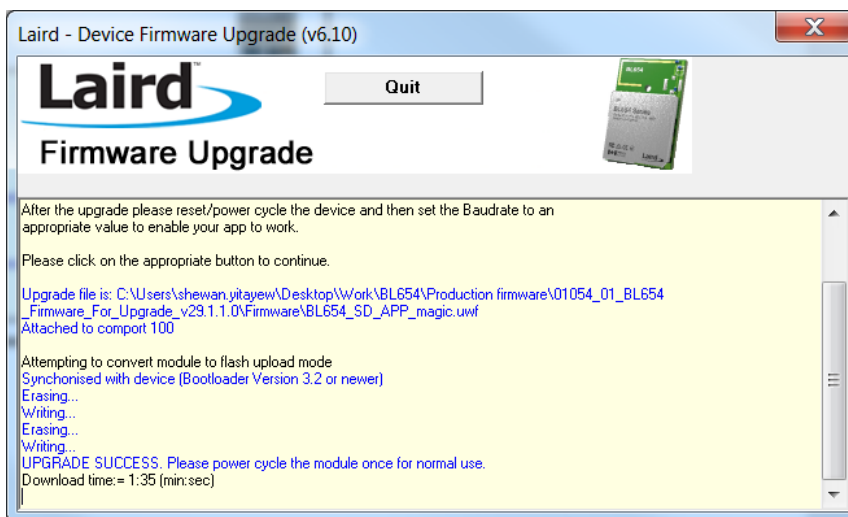

Figure 6: Upgrade complete, requesting power cycle
- When the upgrade is complete, the screen indicates completion and requests that you power cycle the module (Figure 6).